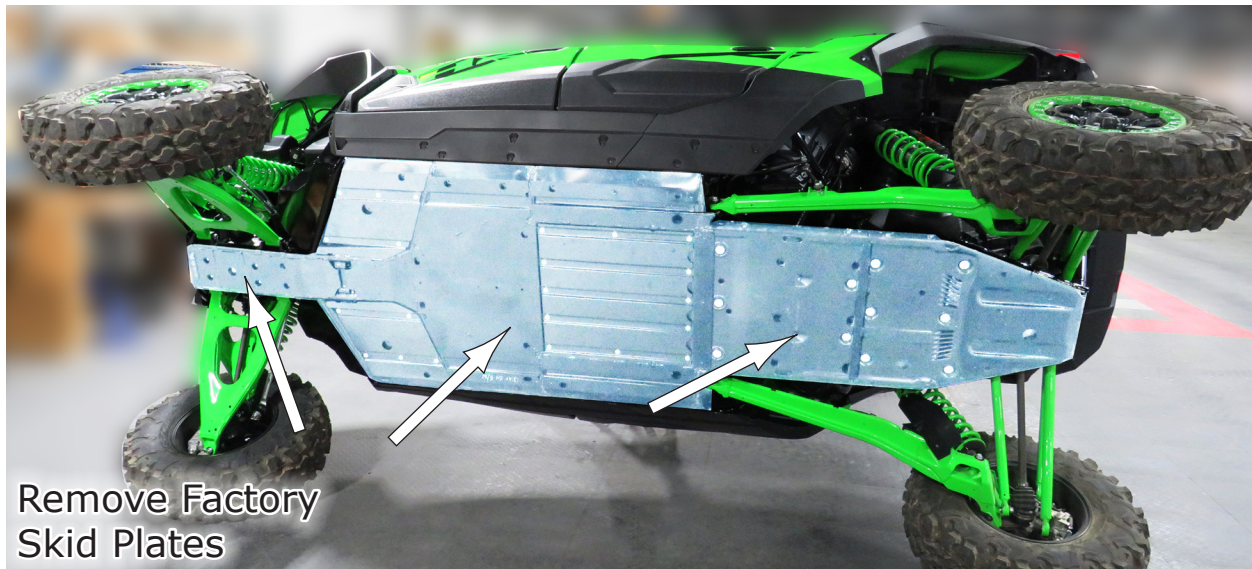

Fig.1
1. The first thing you need to do is **Remove** the **Factory Skid Plates** from the machine, as shown in **Fig.1** and place aside as you will not be reusing them.